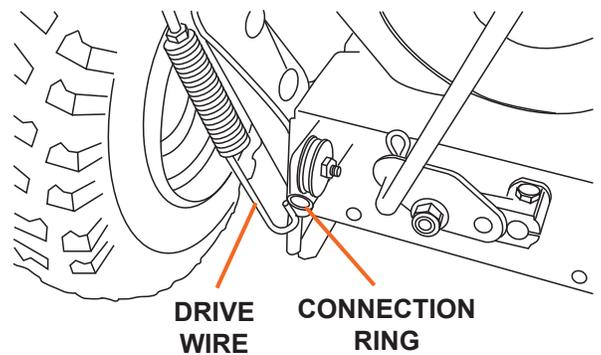

Figure 2
2. Attach the drive wire on the left side of the snow blower (see Figure 2). Remove the R-clip that connects the drive wire to the control lever on the handlebars, then slip the wire off. Attach the other end of the drive wire with the spring mechanism to the connection ring and reattach the drive wire to the control lever reinserting the R-clip. After connecting the wire adjust the tension. The wire should be taught when connected. (See Control Wire Adjustment, page 23 of the Operation Manual).